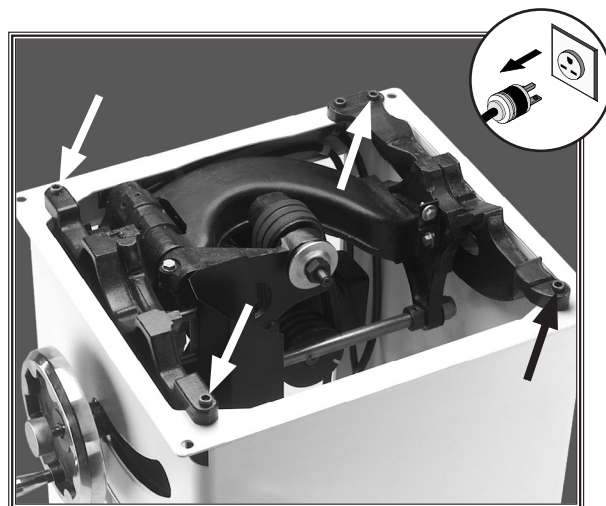

Figure 64. Trunnion assembly mounting bolts.
3. The first option is to loosen the trunnion assembly mounting bolts shown in **Figure 64** and then shift the entire trunnion assembly in the appropriate direction. Tighten the trunnion assembly mounting bolts.